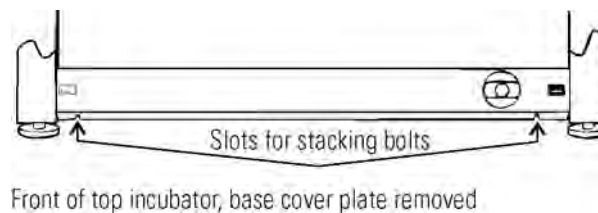

Figure 1-5. Stacking Bolt Slots
2. Note the two slots in the base of the incubator which accommodate the stacking bolts. Refer to Figure 1-5.
7. Insert the stacking brackets into the slots on the rear of the control panel of the bottom unit (Figure 1-5). Align the slots in the brackets with the mounting holes on the rear of the incubators. Secure the brackets with the screws saved above and the 1/4-20 bolts provided in the stacking kit. A 7/16" wrench or socket will be required for the bolts.